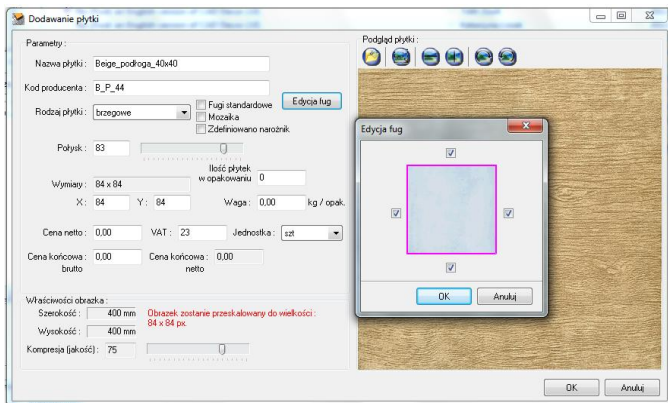
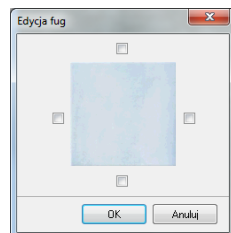

Fig. 219 – grout edition – this tile will have a grout
Fig. 220 – this tile will be applied in the project without a grout
- **standard grout** - by default added around the tile; if this option is deselected, the button **Grout edition** becomes active and a new little dialog can be opened, in which the grout can be removed (Fig. 219) – it is necessary to deselect ALL edges (Fig. 220) – if only 1, 2 or 3 edges are deselected, the grout will be still added around a tile while applying tiles in the project;
- *deselect the Standard grout option and uncheck ALL edges of a tile (see Fig. 220 on page 167) to prevent the program from adding grouts automatically;*